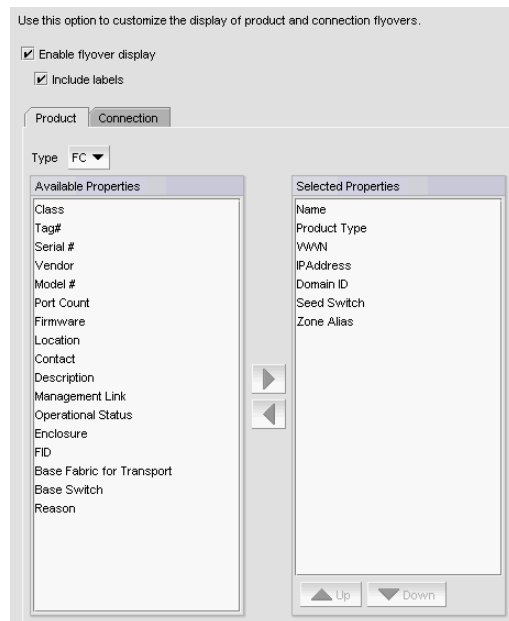

FIGURE 26 Options dialog box (Flyovers pane, Product tab)
5. Add product properties you want to display on flyover by selecting the **Product** tab (Figure 26) and completing the following steps.